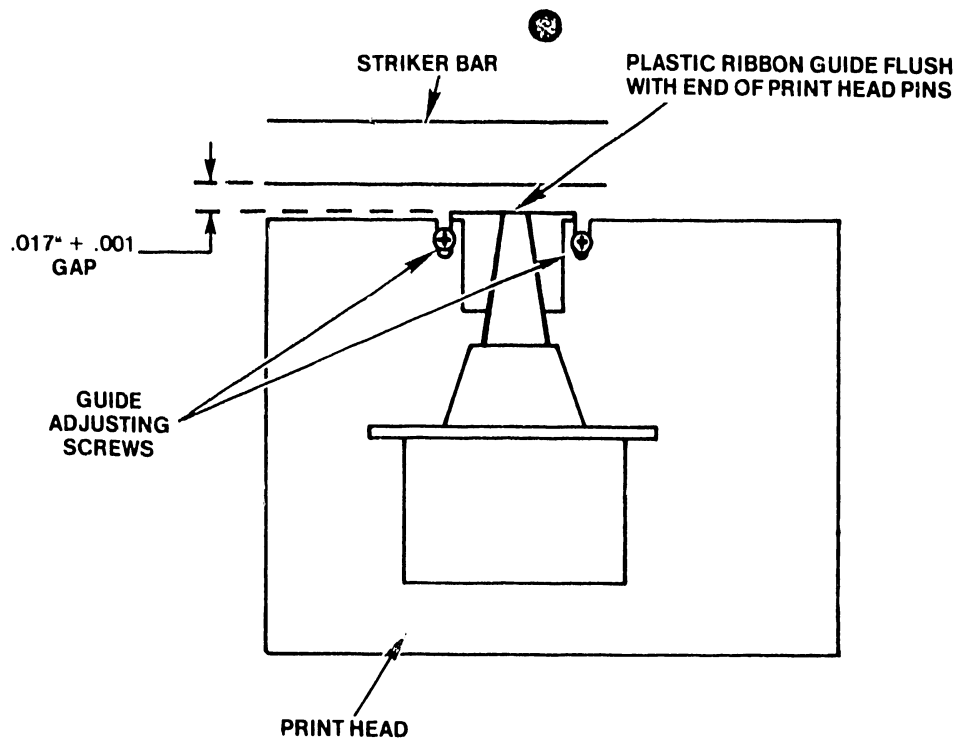

Figure 5-3 Ribbon Guide Shield Adjustment
- a. Loosen two guide adjustment screws and adjust the ribbon guide for $.017''$ gap from the striker bar as shown in Figure 5-3.